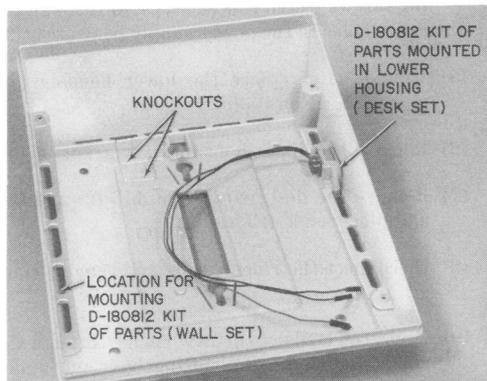

Fig. 13—Lower Housing Removed Showing Knockouts for Access by Adjunct Cords and Locations for Mounting D-180812 Kit of Parts
8.01 Knockouts are provided in the bottom rear of the lower housing (Fig. 13), to accommodate